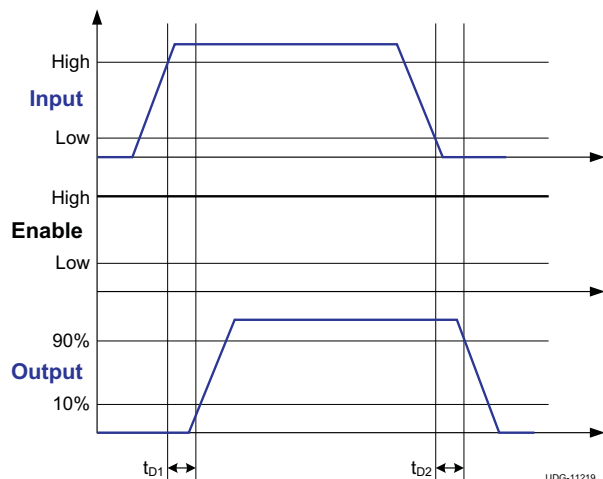
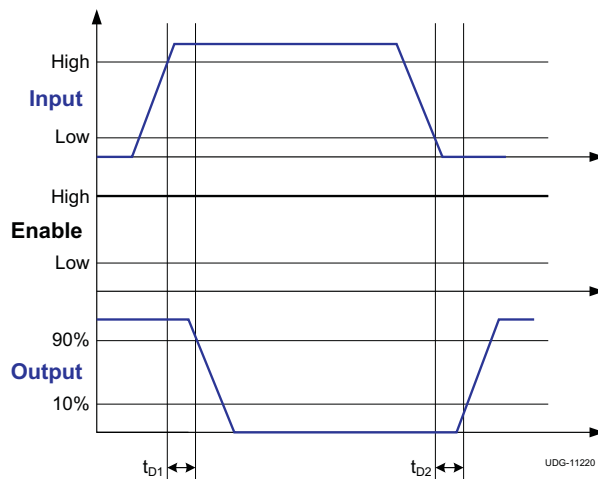

Figure 3. Non-Inverting Input Driver Operation
Figure 4. Inverting Input Driver Operation
(2) R_{OH} represents on-resistance of only the P-Channel MOSFET device in pull-up structure of UCC2752X output stage.
(3) See timing diagrams in Figure 1, Figure 2, Figure 3 and Figure 4